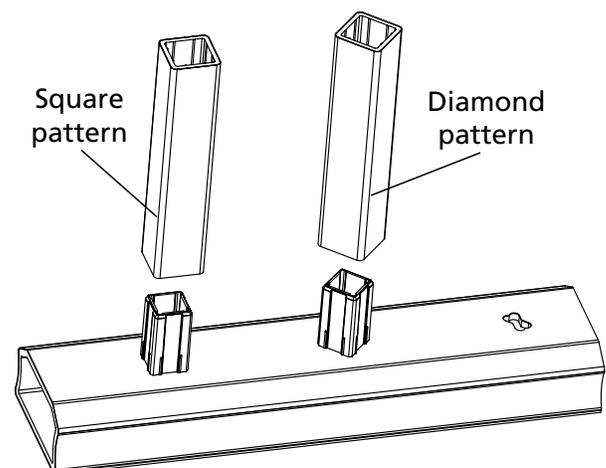
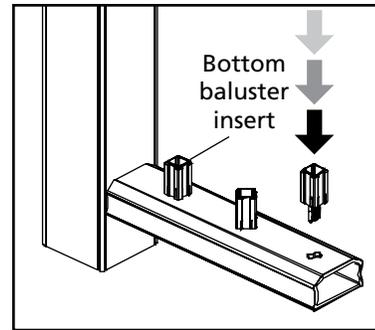

Figure 22
Figure 23
14. Determine the desired baluster design (squared look, diamond look or a mixed pattern of the two. Diamond pattern not possible on stair sections) (Figure 22).
16. Fully engage the bottom baluster insert (Figure 23) into each baluster slot in the bottom rail. Orient the bottom baluster insert to achieve the desired look (Figure 22).